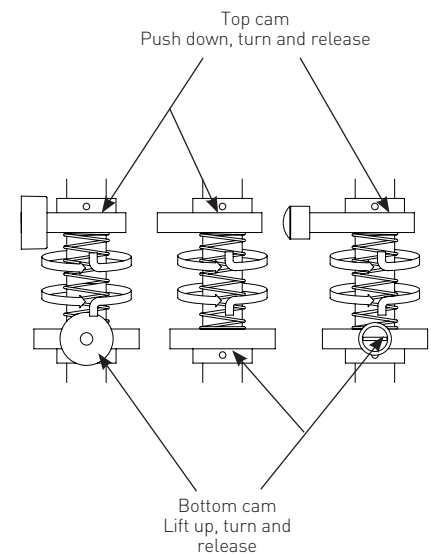

Figure 3
2.5 To set the switches, lift the bottom cam and turn until the switch has activated and then release. The spring will push the cam back onto the splined shaft (Figure 3).
2.6 Stroke the actuator to the opposite end of travel. Set the top cam by pushing down and turning the cam until the switch is activated (Figure 3).